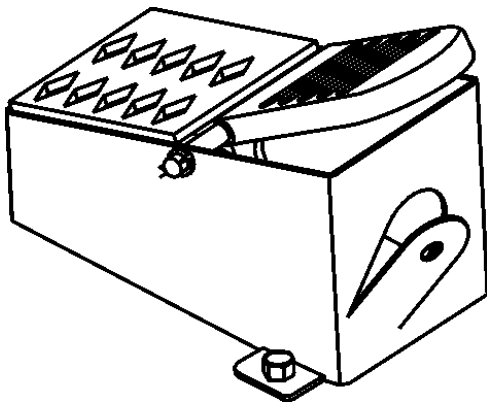

Figure 9. Blade Speed Control Foot Pedal
2. The right foot pedal (Figure 9) controls blade and engine speed. The position of the foot pedal determines the blade speed. Slow blade speed is obtained by slightly depressing the pedal. Maximum blade speed is obtained by fully depressing the pedal.